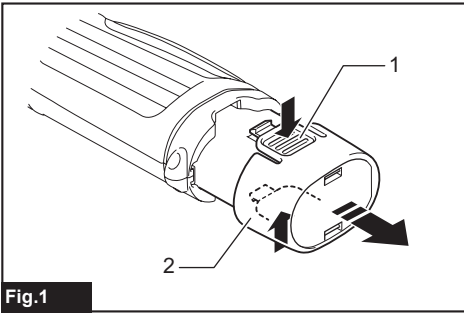

Fig.1
► Fig.1: 1. Button 2. Battery cartridge